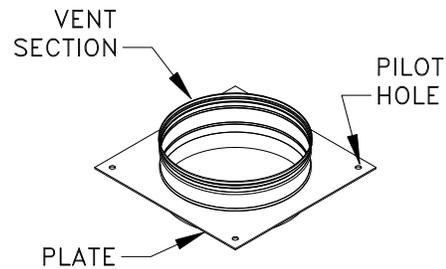

FIG. 1 (SUPPORT PLATE)
3. Secure the Support Plate to the framing members by installing the appropriate fastener through the pilot hole in the plate and into the framing members (See Figs. 1 & 2).